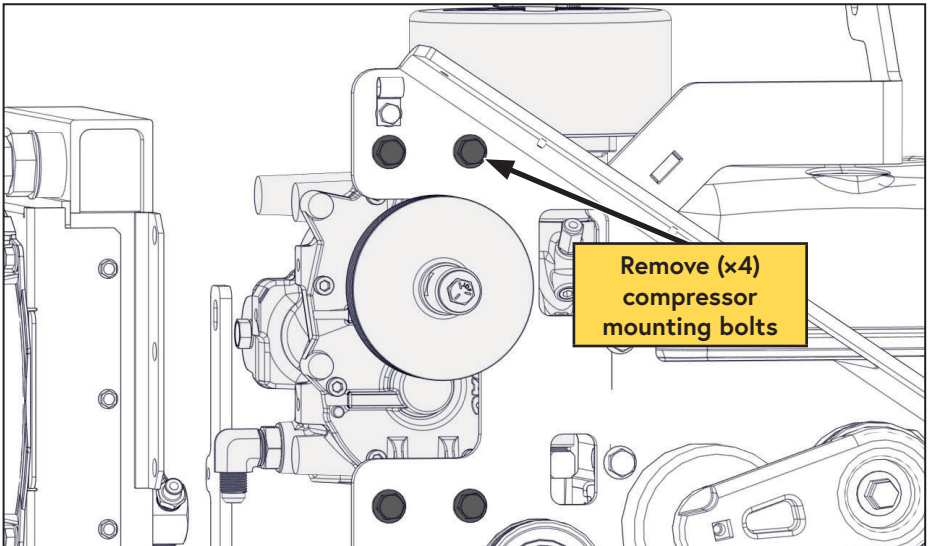

Figure 75 — Remove compressor
- Lift the compressor up and away from the belt guard to remove it (Figure 75).